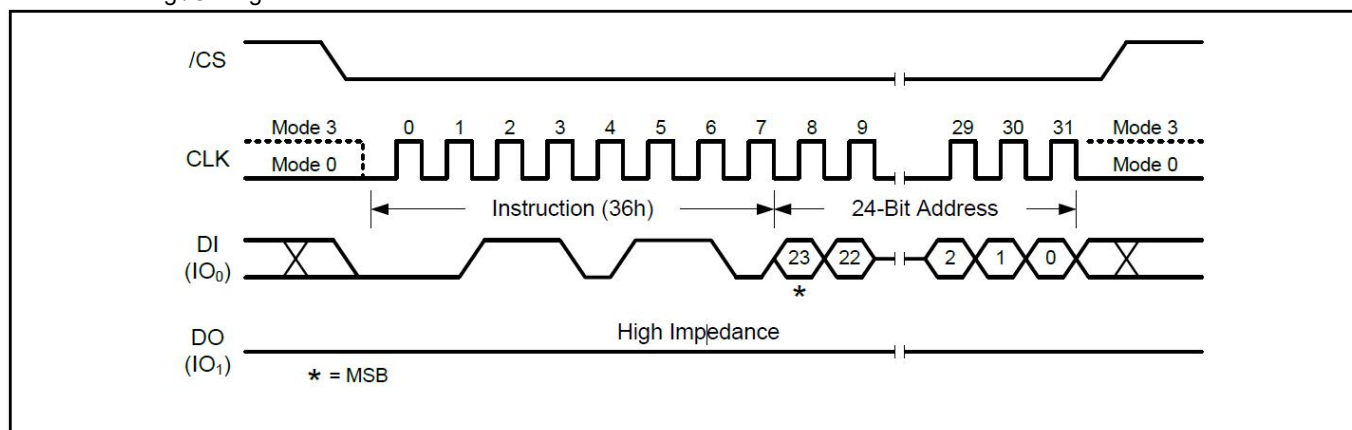

Figure 36. Individual Block/Sector Lock Instruction for SPI Mode
To lock a specific block or sector as illustrated in Figure 36, an Individual Block/Sector Lock command must be issued by driving /CS low, shifting the instruction code “36h” into the Data Input (DI) pin on the rising edge of CLK, followed by a 24-bit address and then driving /CS high.